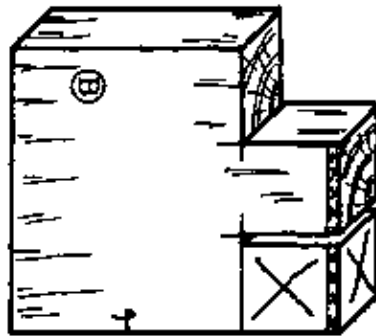

Fig. 9
– Carefully saw the shoulders, making sure to hold the saw straight. Keep on the waste side of the line (Figs. 9 & 10).